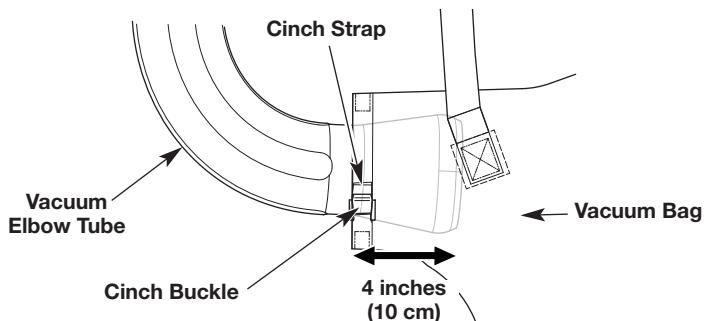

Fig. 7
4. Insert the flared end of the vacuum elbow tube approximately 4 inches (10 cm) into the vacuum bag (Fig. 7).
2. Lift the buckle to loosen the cinch strap (Fig. 7).
3. Remove the vacuum elbow tube from the vacuum bag (Fig. 7).